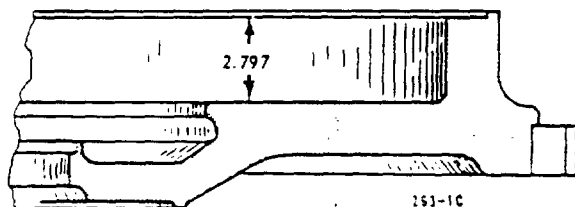

Figure 4-16. Flywheel Rubbing Surface-to-Clutch Cover Bolting Surface Dimension
6. If flywheel is warped or heat checked and surface is refinished, maintain the 2.797 inch dimension between disc surface and bolting face for proper release lever adjustment. See Figure 4-16. No more than .070 inch maximum may be removed by grinding.